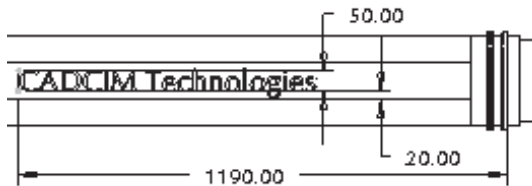

Figure 7-106 Text with dimensions
- g. Write the text on the pencil by using the sketched datum curves, refer to Figures 7-106 and 7-107.
3. After you enter the sketcher environment, create the text using the **Create text as a part of a section** button. Figure 7-106 shows the text written with the dimensions.